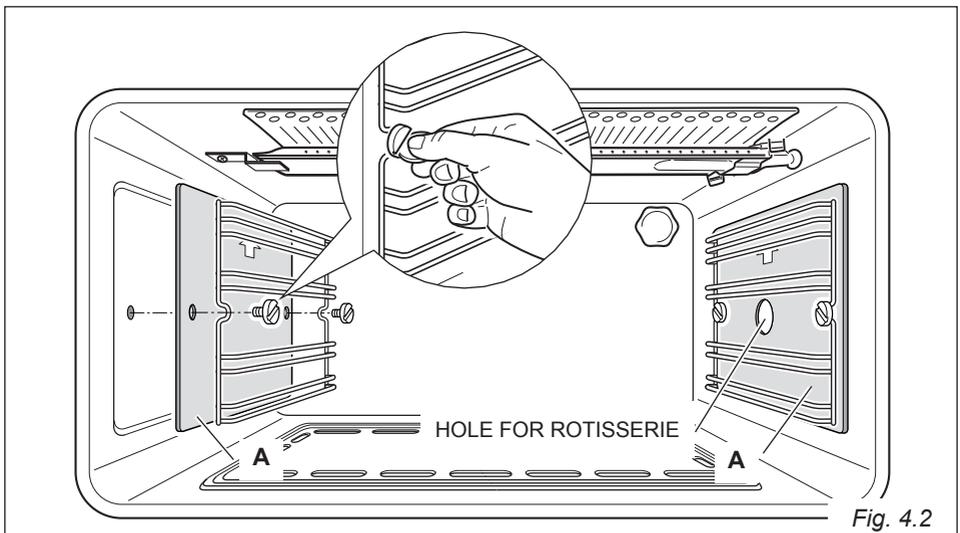

Fig. 4.2
- Assemble the wire racks to the oven walls using the 2 screws (fig. 4.2).
In the models with catalytic panels supplied, interpose the catalytic panels “A” with the arrow up (fig. 4.2). The catalytic panel with the hole for the rotisserie must be positioned on the right oven wall. DO NOT INTERPOSE THE CATALYTIC PANEL WITHOUT THE HOLE ON THE RIGHT OVEN WALL.
- Screw the side racks onto the oven walls (and the catalytic liners if supplied - fig. 4.2).